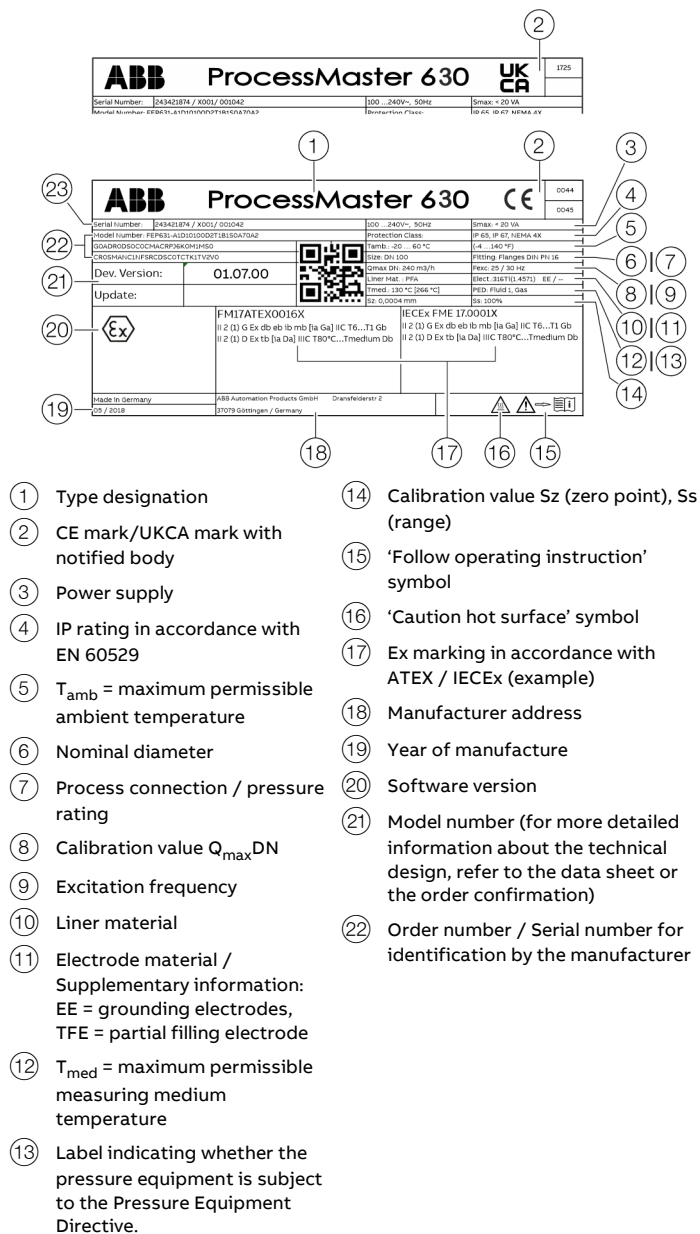

Figure 1: Name plate (example)
Information on the relevant fluid group (Figure 1, Position ⑬):